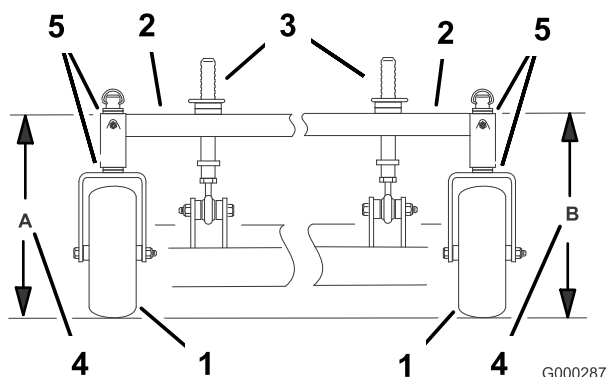

Figure 70
4. Measure carrier-frame height at location **A** (Figure 70).
5. Measure carrier-frame height at location **B** (Figure 70).